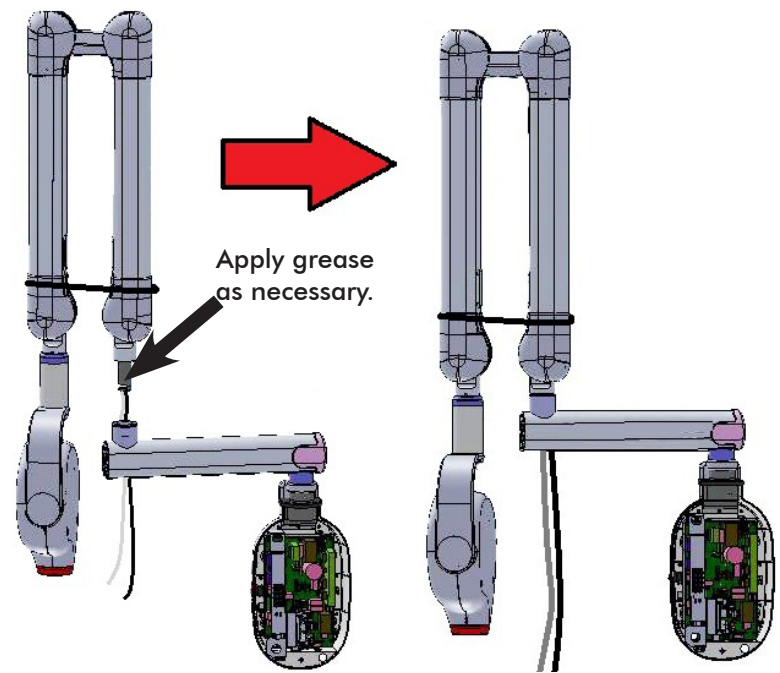

Figure 55
- Holding the scissor-arm close to the straight-arm, insert the cables inside the straight arm (free end) through the top hole into the straight arm till it comes out at the free end of straight arm and slowly insert the Scissor-Arm assembly into the straight arm without damaging the cables as shown in Figure 55 .